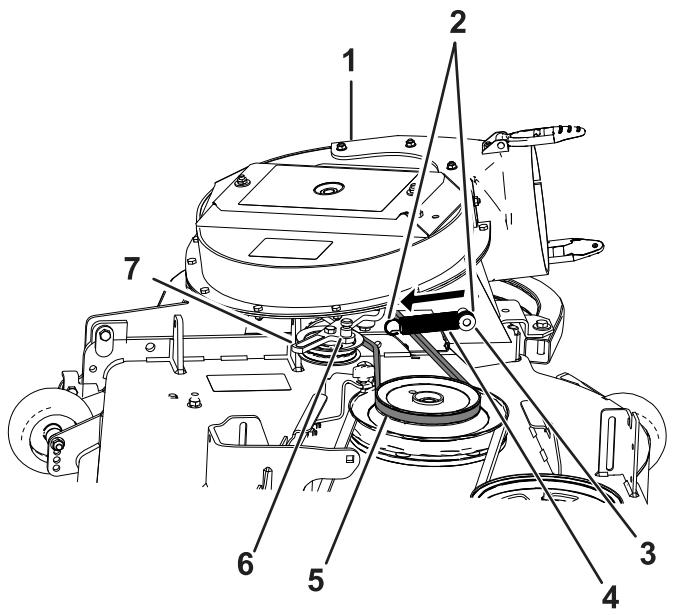

Figure 36
2. Temporarily route the belt beneath the drive pulley (Figure 36).
3. Move the idler-pivot bracket toward the fixed spring post and install the spring by aligning the spring hook onto the idler-spring post (Figure 36).
4. Pull the spring-loaded idler pulley away from the fixed spring post, and route the belt around the drive pulley (Figure 36).